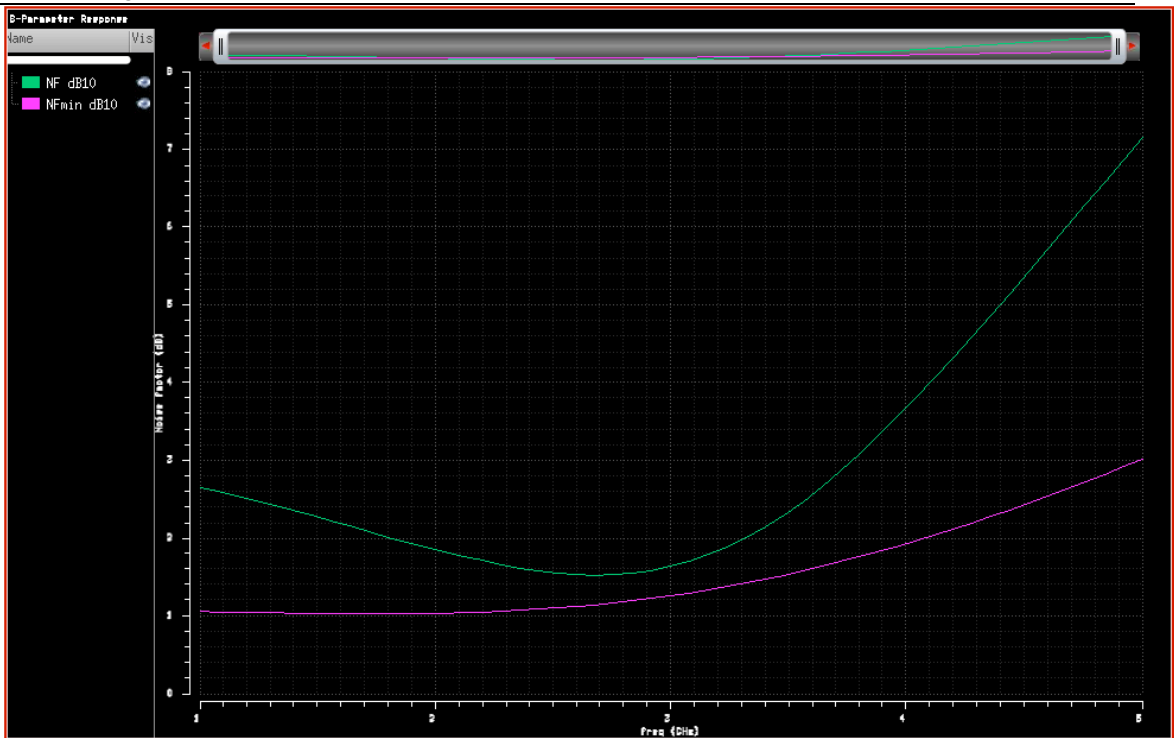

Fig. 5. NF and NFmin
- The results are shown in Fig. 5.
- The simulated Noise Figure should be similar to the SP analysis (Fig. 5).